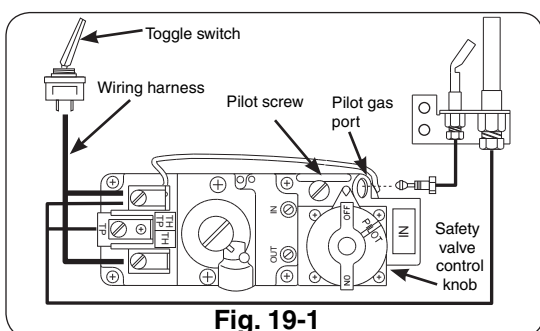

Fig. 19-1
To read the safety valve control knob (Fig. 19-1), read the marking nearest the teardrop-shaped metal pointer.
- b. If adjustment is necessary (Fig.19-1), turn the gas adjustment screw counterclockwise ↻ to increase the pilot flame, or clockwise ↻ to decrease the pilot flame.